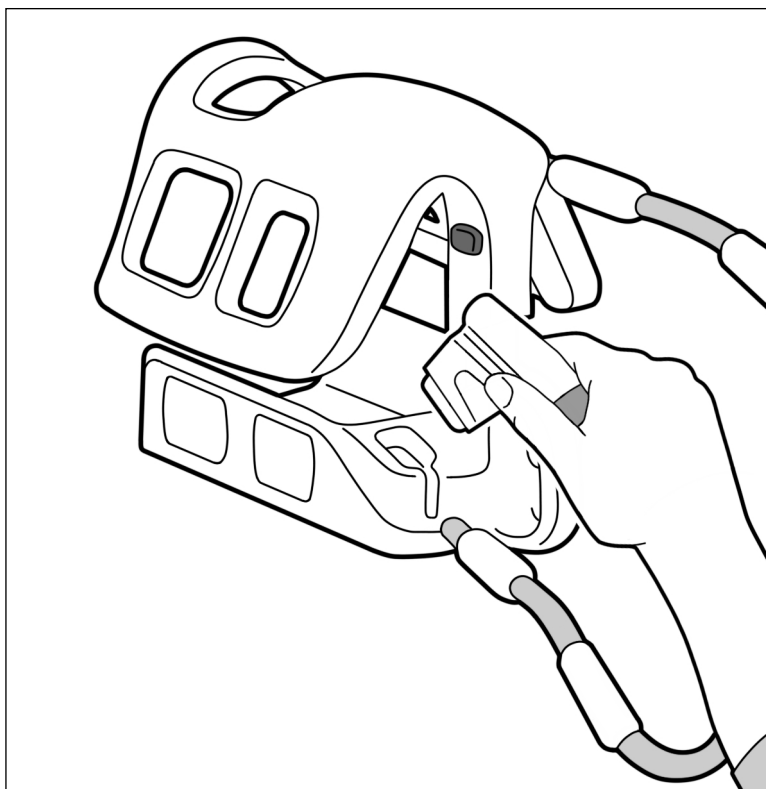

Figure 16
7. Unplug the two Coil Connectors from the MRI table Coil Slot and plug them into the storage receptacles on the bottom coil (Fig. 16). Remove the Encompass 15 Channel MRI Head Coil Device from the MR Table.